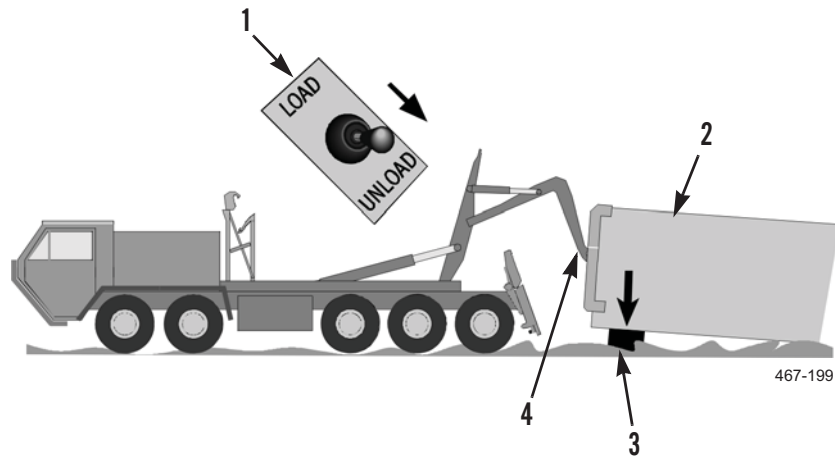

Figure 12. Container Lowered to Support.
9. Keeping engine at idling speed, set joystick (Figure 12, Item 1) to UNLOAD to lower front of container (Figure 12, Item 2) onto supports (Figure 12, Item 3) and remove weight of container from hook (Figure 12, Item 4). Release joystick.